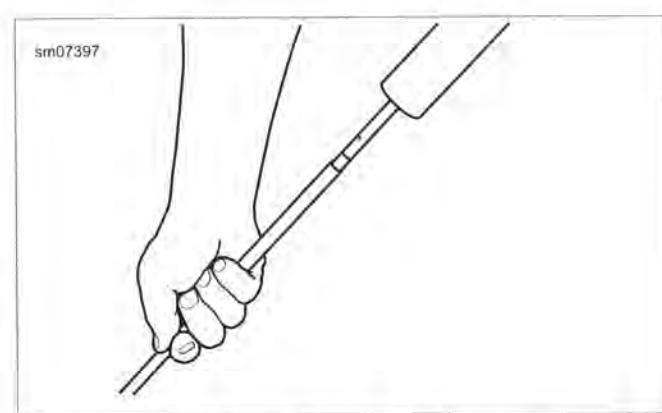

Figure 2-98. Pump Damper Rod Extension Tool
11. See Figure 2-98. Turn fork assembly upside down over drain pan and slowly pump damper rod at least 20 times until rod moves freely.